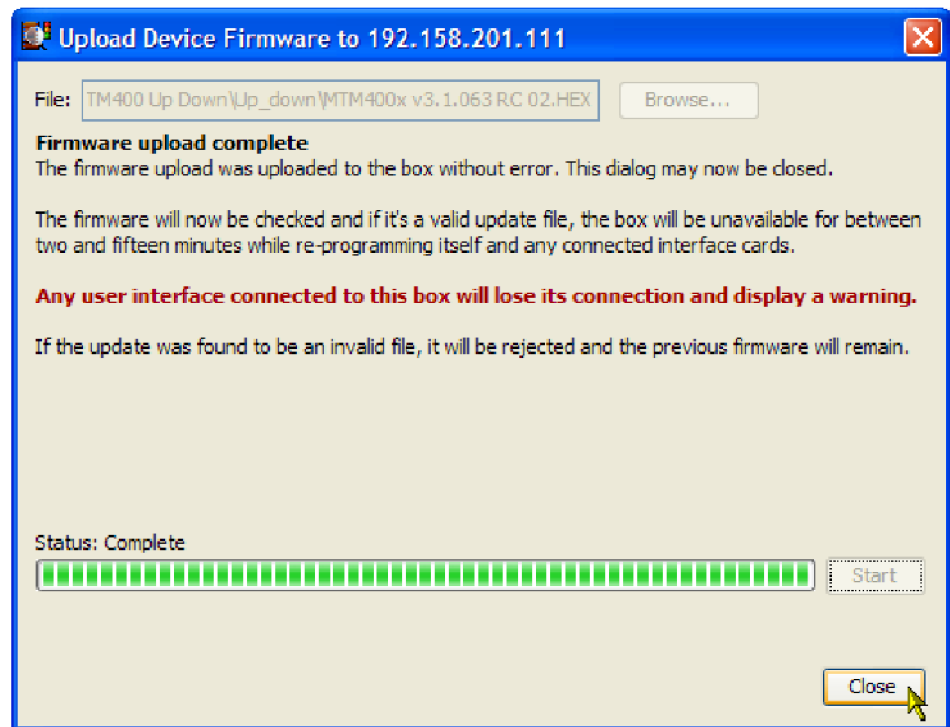

Figure 19: Completing the firmware upload (RUI v3.0 and above)
11. When the firmware upload is complete, the message **Firmware upload complete** appears. (See Figure 19.)